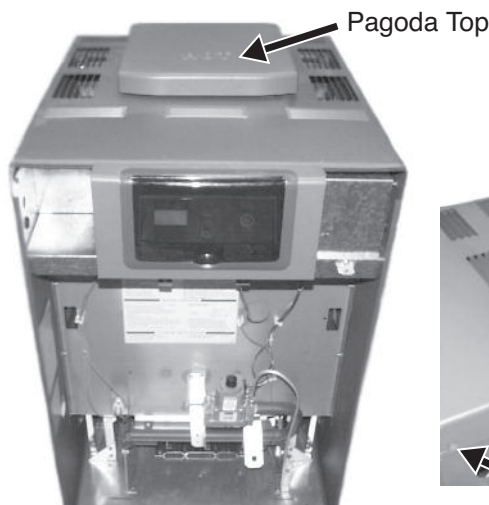

Fig. 2
3. If this is a retro-fit application, remove existing “Pagoda Top” and discard. See Fig. 2. If equipped with a draft hood, refer to draft hood installation manual for removal process.